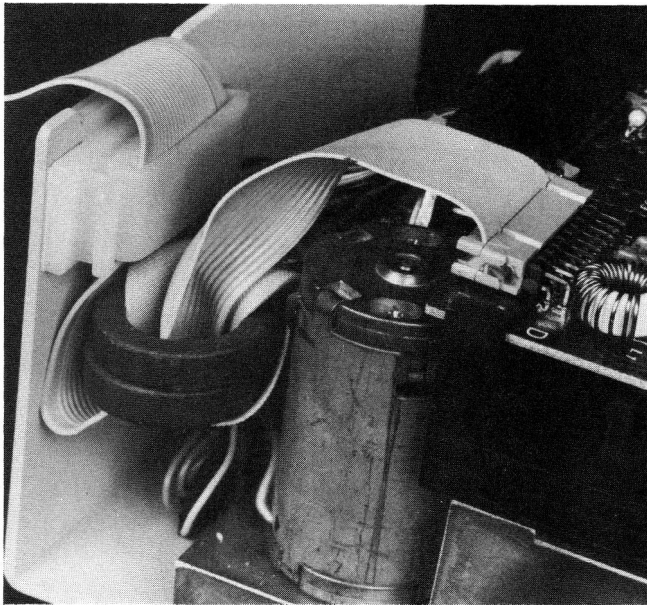

Fig. 8-16. Cable plugs are keyed, but be careful to install them correctly.
22. When the head and pressure pad are dry, reinstall the analog card as follows: (a) gently slip the card beneath the two black plastic hold-downs, moving the card from the front to the rear of the drive; (b) center the card over the two Phillips head screw holes; (c) reinstall the two Phillips head screws; and (d) reinstall the three cable plugs at (A), (B), and (C).
**CAUTION:** You can damage the drive electronics if you attach the cable incorrectly. Cable plugs (A) and (C) are keyed so you can connect them in only one way. Cable plug (B) has an arrow on one end of the plastic connector plug that should be pointing up when the plug is reinstalled, as shown in Fig. 8-16. The cable should feed up away from the connector as shown in Fig. 8-16. Make sure all the pins are correctly matched with the holes in the plug.